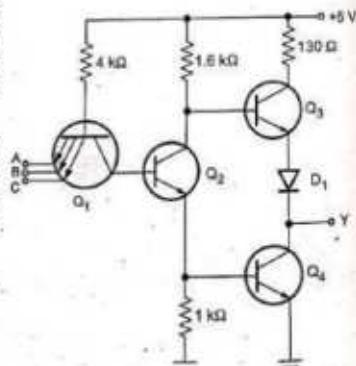

Fig. 3.3.2 Three input TTL NAND gate
- The Fig. 3.3.2 shows the three input TTL NAND gate. It is same as that of two input TTL NAND gate except that its  $Q_1$ (NPN) transistor has three emitters instead of two.